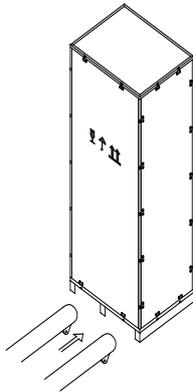

Fig. 11. Transport to the designated site
2. Transport the equipment to the designated site by forklift, as shown in Fig.11